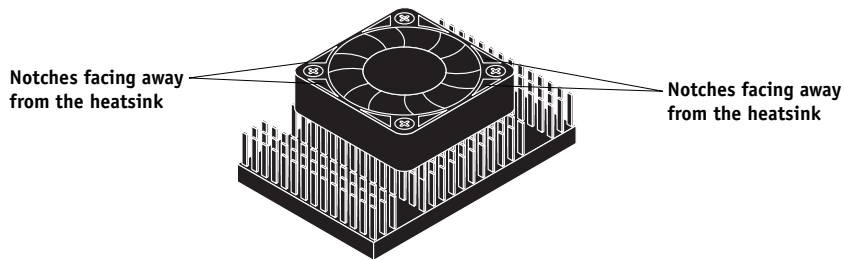

FIGURE 4-18 CPU fan
The 12V CPU fan is mounted on the CPU heat sink. The fan blows air toward the heatsink to cool the CPU. The fan is correctly oriented when the notches near the corners of the fan face away from the heatsink (see Figure 4-18). The CPU fan cable connects to the motherboard at connector J27.
1. **Position the CPU fan on top of the CPU heatsink so that the notches near the corners of the fan are facing away from the heatsink (see Figure 4-18 on page 4-24).**